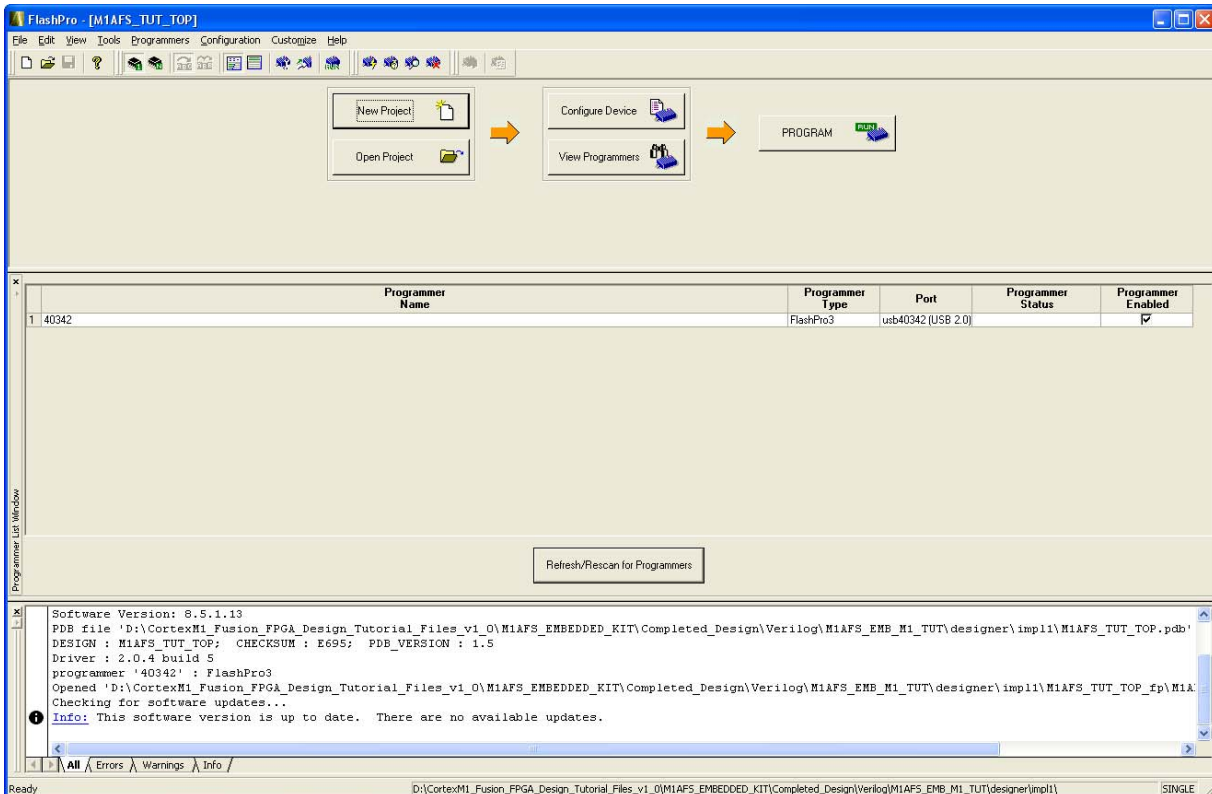

Figure 5-4 • FlashPro Project Flow
4. Click the PROGRAM button to program the Fusion device (Figure 5-4). Once programming is complete, the Programmer Status will show **RUN PASSED** in green.